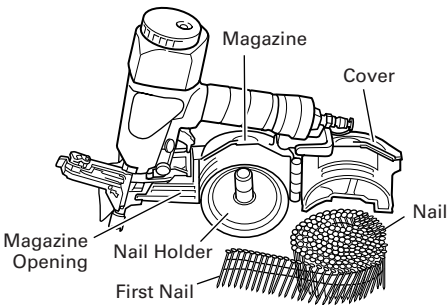

Fig. 4
- Load the nails in the magazine. At this time, if the wound portion of nails is inserted after it is once pulled out beforehand, the subsequent work can be much facilitated. (Fig. 4)